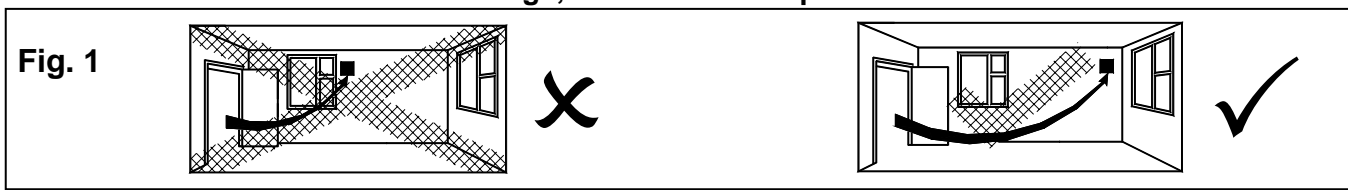

Fig. 2 (VA100SVLH12 AND VA100SVXH12).
1. Select and follow the appropriate wiring diagram. (Fig. 2, 3,4 or 5)